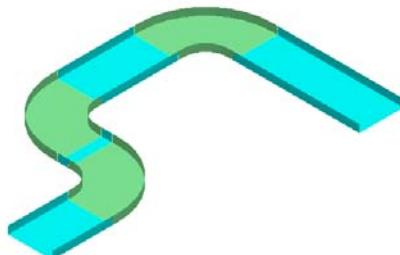

Figure 38: Routed Cableway
19. Position the cursor in the South direction and click in the graphic view to accept the position, as shown in Figure 38.